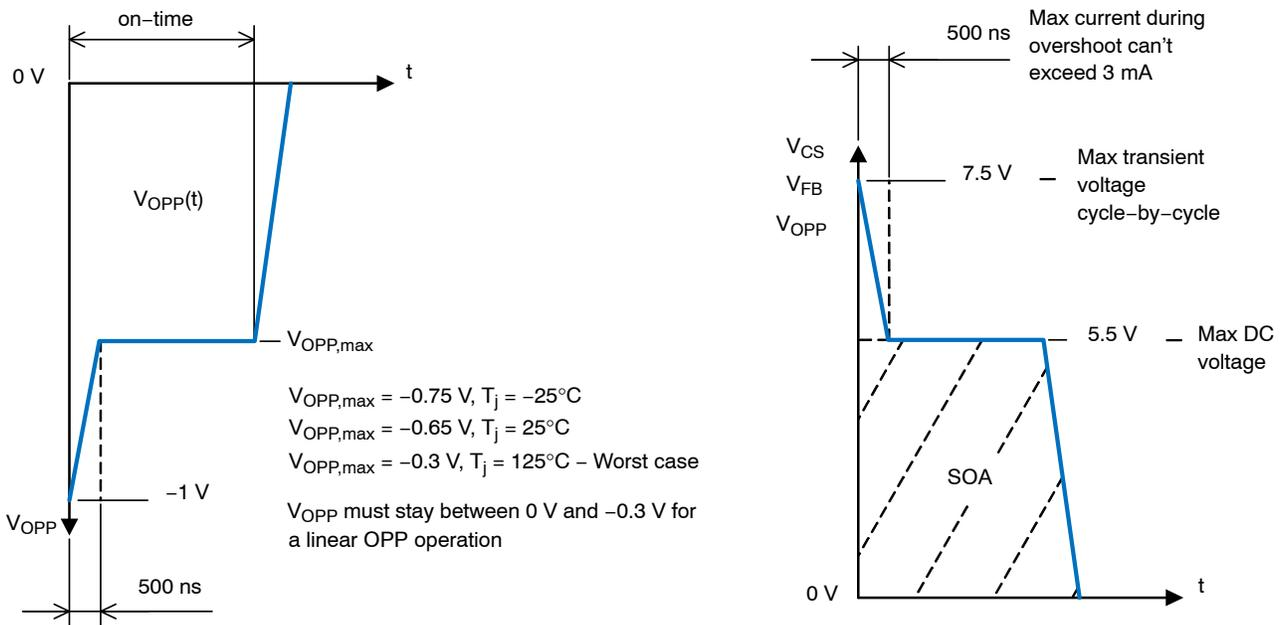

Figure 4. Negative Pulse for OPP Pin during On-time and Positive Pulse for all Low Power Pins
1. See the Figure 4 for detailed specification of transient voltage.